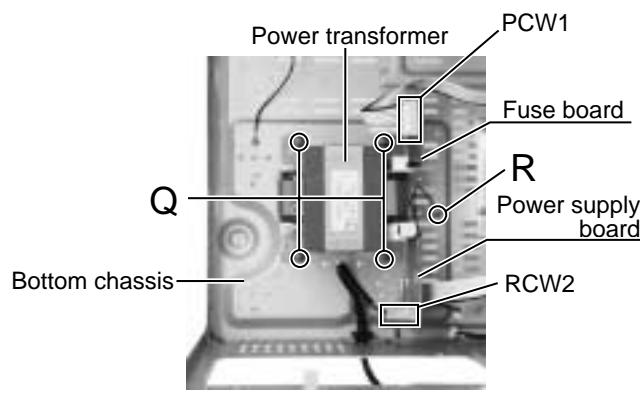

Fig.17
■Removing the power transformer (See Fig. 17)